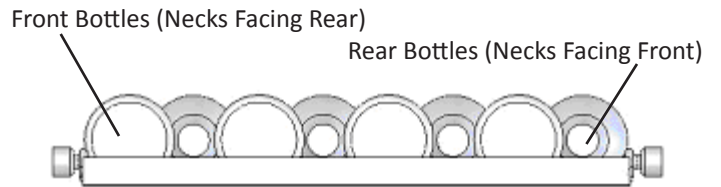
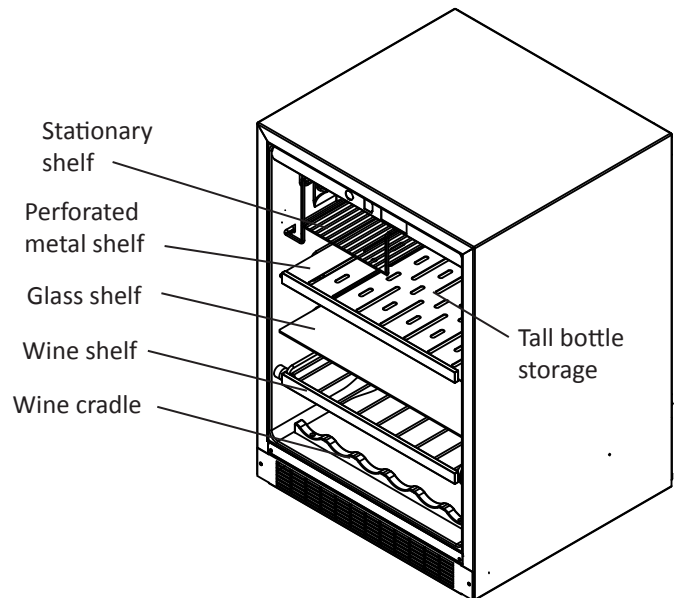
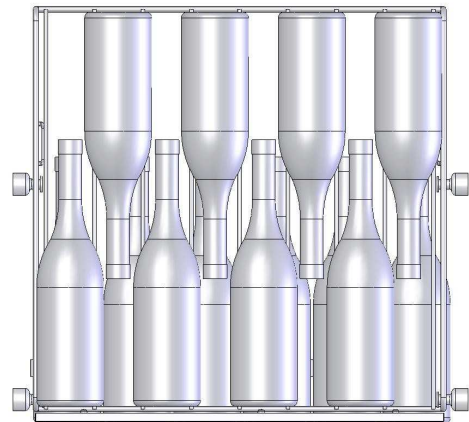

Figure 17
Figure 18
Figure 19
The wine rack pull-out shelf holds eight (8) bottles. See Figure 17 and Figure 19 for typical wine bottle orientation. The wine rack is located at the bottom of the cabinet just above the fixed wooden bottle cradle which will store 6 bottles of wine. The glass and metal shelves and fixed position wire rack are for general beverage storage, such as beer and soft drinks. The glass shelf also acts as a zone separator to create a warmer zone (5° - 8°F warmer than set temperature) for improved wine storage. Removal or relocation of the glass shelf may adversely affect compartment temperature control. Opened wine bottles and tall beverage containers may be stored on the black metal shelf closest to the cabinet top, on the right side where there is clearance for the bottles and/or containers to stand upright. (See Figure 18).
You may store magnums and other large bottles on any of the racks (except for the top rack) by removing the rack directly above them. Position white wines on the middle or lower racks and red wines on the upper racks (see Figure 19).
The single level roll out racks allow you to easily view and access your inventory without disturbing other bottles (see Figure 19).